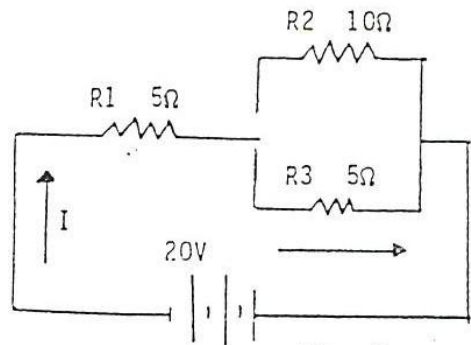

Fig. 1
THE NEXT TWO PROBLEMS ARE RELATED TO FIGURE 1
6. What is the voltage across R1? (See figure 1)